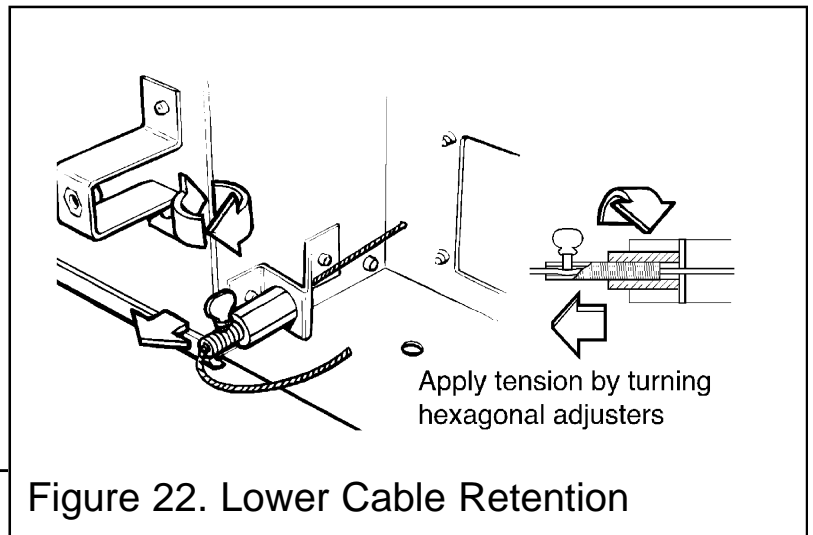

Figure 22. Lower Cable Retention
9. Pull each cable taut. Push the cable retainers hard up against the "V" brackets. Tighten the screws in the retainers so that they clamp the cables in position. Apply tension to the cables by turning the hexagonal adjusters by hand. See figure 22.